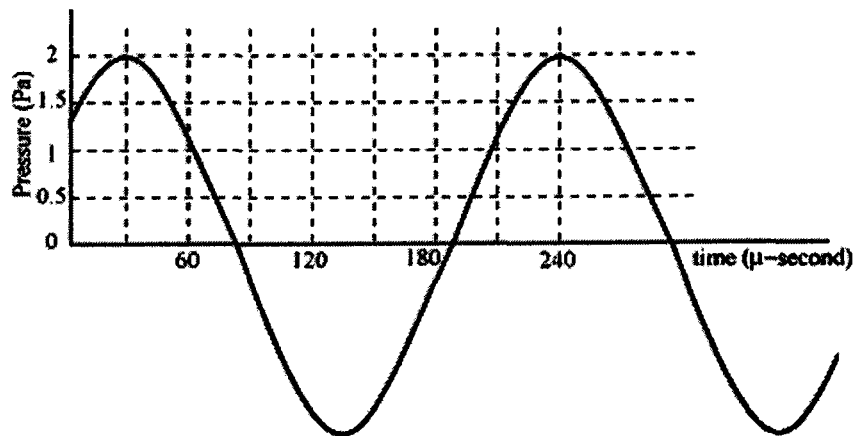

Figure Q4[a]
- Q4. [a] A measurement of acoustic pressure is shown in Figure Q4[a]. If the wave that travelling in air is represented as $p(x,t) = Ae^{j(\omega t - kx)}$, determine the amplitude A , angular velocity ω , wave number k , wavelength λ and the sound pressure level (SPL).